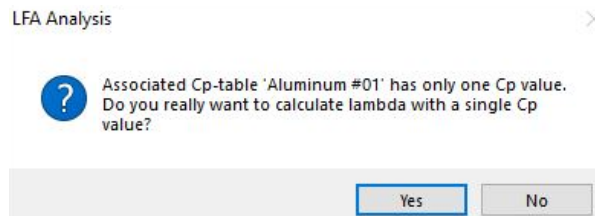

Figure 43. Verify calculation based on Cp value.
- A pop-up window will appear asking if you want to calculate based on one Cp value; select Yes (as shown in Figure 43).